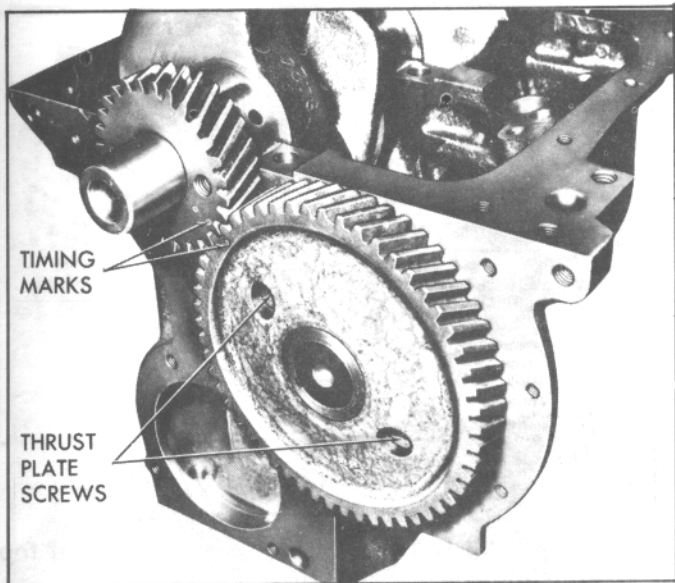

Fig. 66. Timing Gear Alignment Marks
2. Through holes in the timing gear, remove the thrust plate screws (Fig. 66), then remove the camshaft assembly, being careful not to damage the camshaft bearings.
4. Lubricate camshaft journals with engine oil, then rotating crankshaft so that timing marks on gears will line up, install camshaft and gear assembly being careful not to damage bearings (Fig. 66).